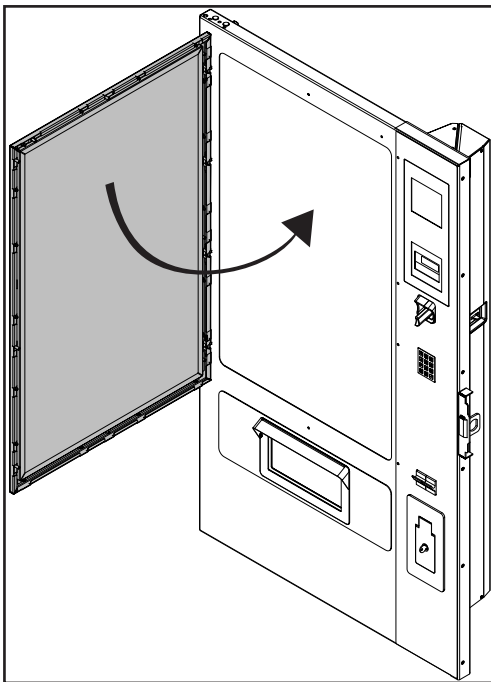

Figure 36
1. Close the impact protection (Fig. 36).